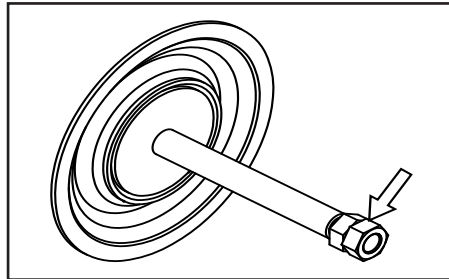

Figure 19
- Remove the nut on the opposite side using the double nut (See Figure 19).